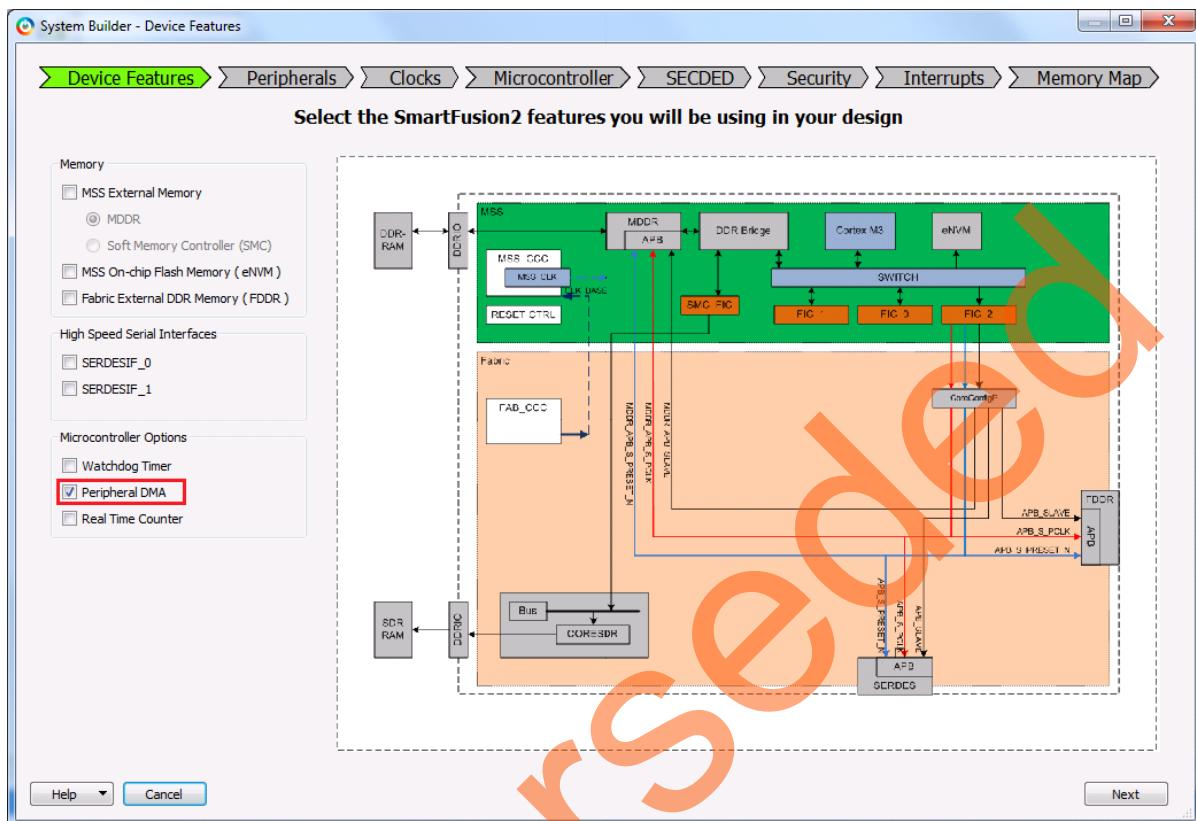

Figure 6 • System Builder – Device Features Page
9. In the **System Builder – Device Features** page, check the **Peripheral DMA** check box under **Microcontroller Options** as shown in Figure 6.